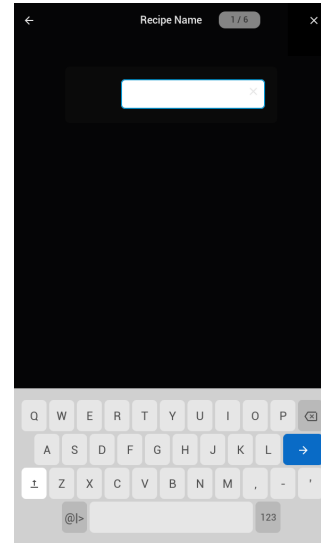

Figure 23: New Recipe Name
5. Input the recipe name and touch the blue arrow button to continue (Figure 23, below).